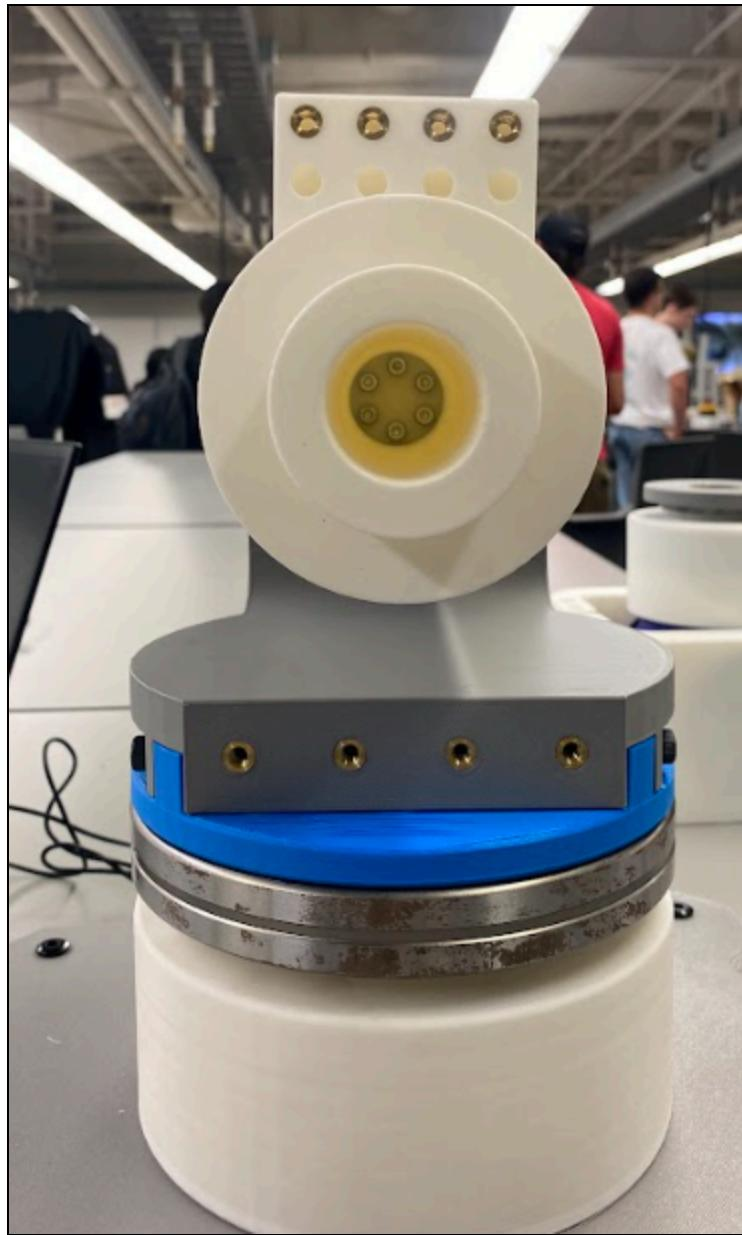

Figure 17: Fully assembled J2 up until J2 Bearing Holder
- The Robotic arm should look like Figure 17 below.
- Prepare the J2 Bearing holder and match the hole pattern to match the heat set inserts seen in Figure 17 above.